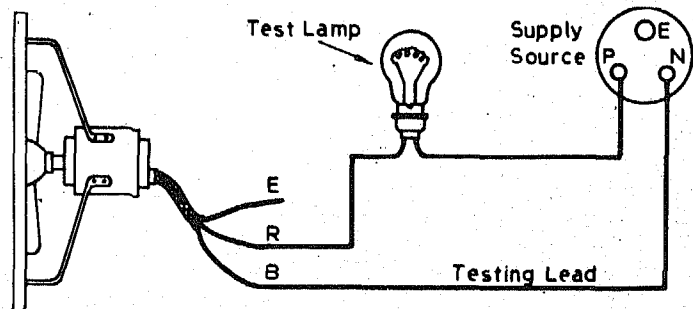

Fig.28.4 Continuity Test, Short Circuit and Open Circuit Test between Conductors.
- (xix) Conduct earth and leakage tests. Connect series test lamp as shown in Fig. 28.4. If lamp does not glow , it means that the exhaust fan is alright.